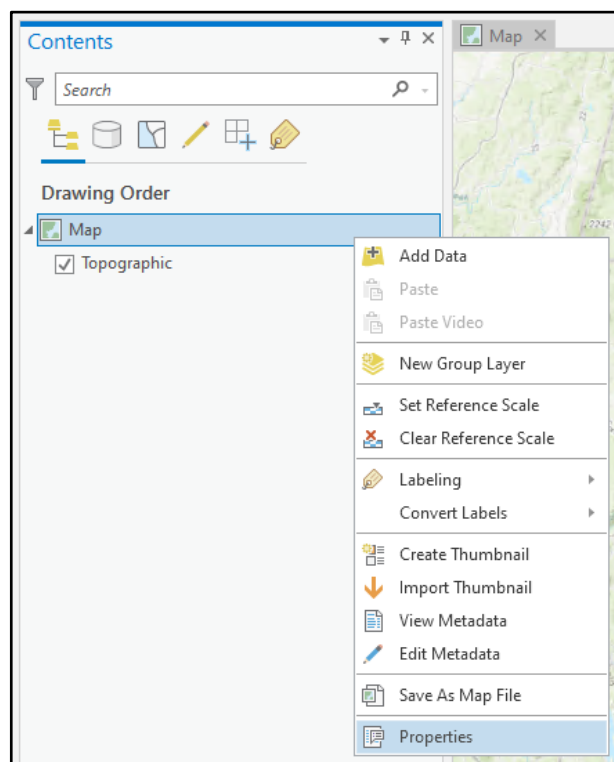

Figure 24
- Right click on Map in the Contents pane and select properties (Figure 24).